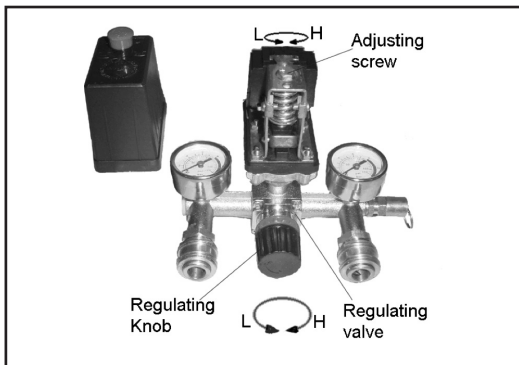

Fig. 3
1. The compressor is controlled by pressure switch when normal working. It can be stopped automatically as pressure increasing to the maximum and restart as pressure decreasing to the minimum. The rated pressure has been adjusted when produced. Don't change it carelessly. As soon as motor switched off, the compressed air in the discharge pipe should be released through the release valve under the switch. This is the necessary condition for restart, or the motor will be damaged. The rated pressure can be adjusted by turning bolt of the switch (Fig.3).
2. The output pressure of compressed air can be adjusted by regulating valve. Pull up the knob of regulation valve and turn it clockwise to increase the pressure (Fig.3).